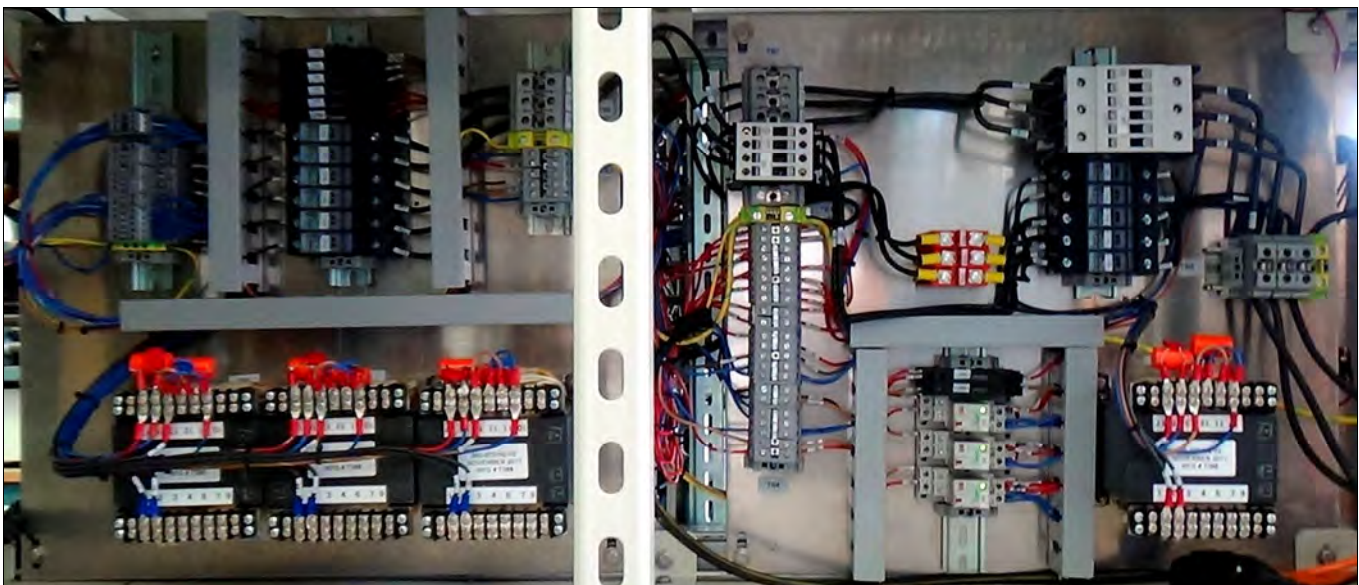

Figure 3-2 Power Distribution and Safety panels
**Safety panel** – Point where power enters the furnace. Contains main contactor. Located at furnace entrance, back side (Figure 3-2).
**PDP** or Power Distribution Panel – Distributes power 3 phases. Located next to Safety panel on furnace back side (Figure 3-2).